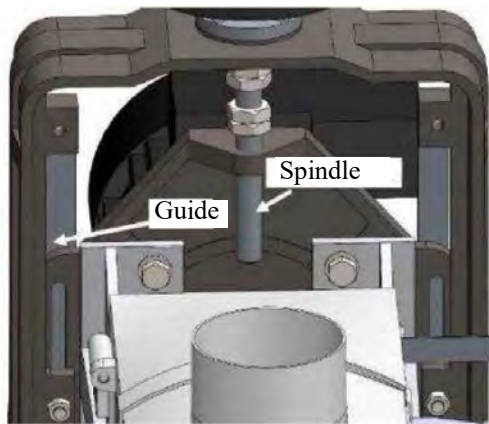

Fig. 32: Lubrication
1. Replace a damaged grinding belt immediately. Check the correct setting of the feed belt at regular intervals. Lubricate monthly all moving parts (Fig.32) such as threaded spindle, pulleys and bearing bushes including the depth limiter, sliding surfaces and bushes connected to the depth control mechanism. Do not use oil or grease for this purpose as it tends to bind sawdust.